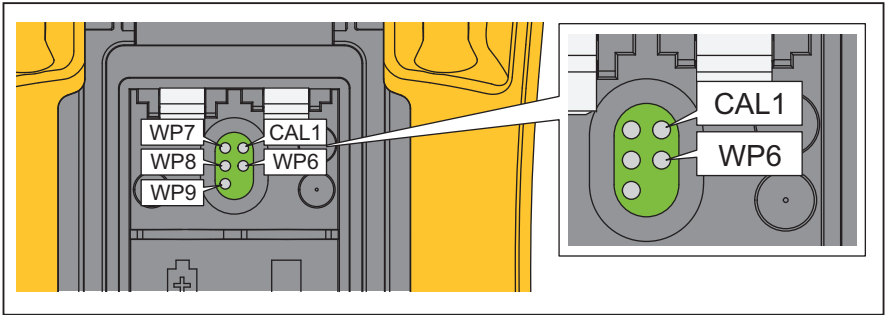

Figure 7. Calibration Adjustment 18B+
4. To put the UUT in calibration mode, use a small probe to push the calibration button (CAL1) See Figure 5 for 15B+ and 17B+ and Figure 7 for 18B+.
2. On the PCB, short CAL1 and WP6 together. See Figure 7.